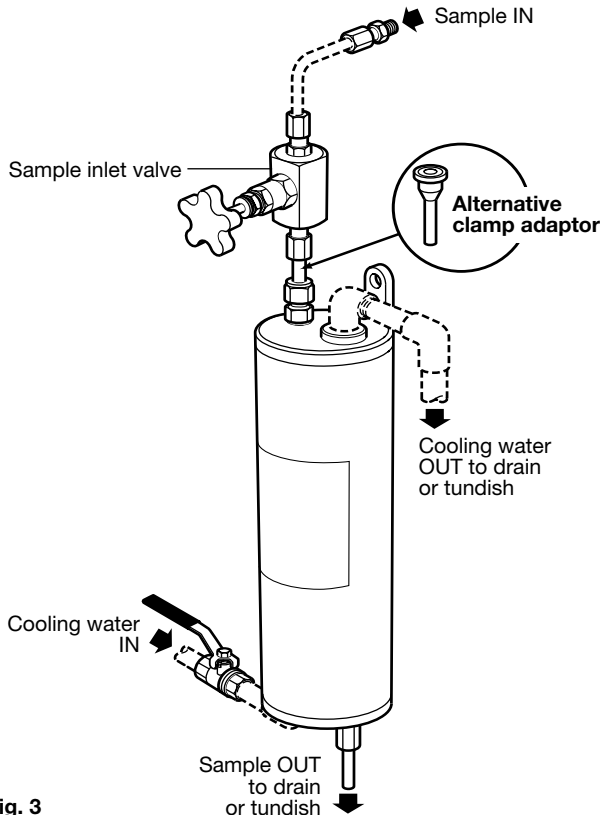

Fig. 3
- Connect the pipework as shown in the drawing (Figure 3). The cooling water IN should be piped to the bottom of the sample cooler in 1/2" nominal bore pipe via the cooling water inlet valve. A 1/2" BSP/NPT male/female elbow makes a suitable connector.